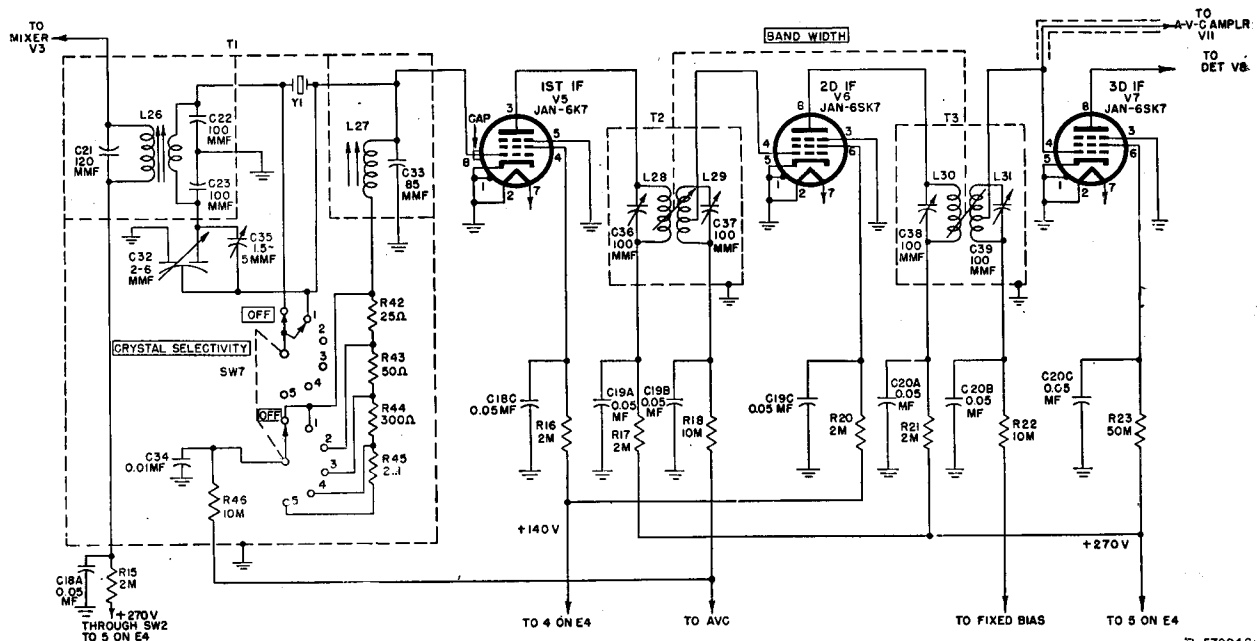

Figure 29. Radio Receiver BC-779-B, functional diagram of i-f amplifier.
62. I-F Amplifier (fig. 29)
a. INPUT STAGE TUBE JAN-6K7 (V5). (1) CRYSTAL SELECTIVITY switch at OFF. With the CRYSTAL SELECTIVITY switch, SW7, at OFF, the crystal filter is shorted. Consequently, the i-f signal is applied directly from input transformer L26 to the parallel-resonant grid circuit (permeability-tuned inductor L27 and 85-mmF capacitor C33) and to the control grid (top cap) of V5. C34 places the lower end of L27 at r-f ground potential. Grid bias is applied from the a-v-c line (par. 65) through 10,000-ohm decoupling resistor R46 which is bypassed by 0.01-mf capacitor C34. Plate (pin 3)
a. **A-V-C AMPLIFIER TUBE JAN-6SK7 (V11).** The output of the 2d i-f stage, V6, is applied simultaneously to the 3d i-f stage, V7 (fig. 29),